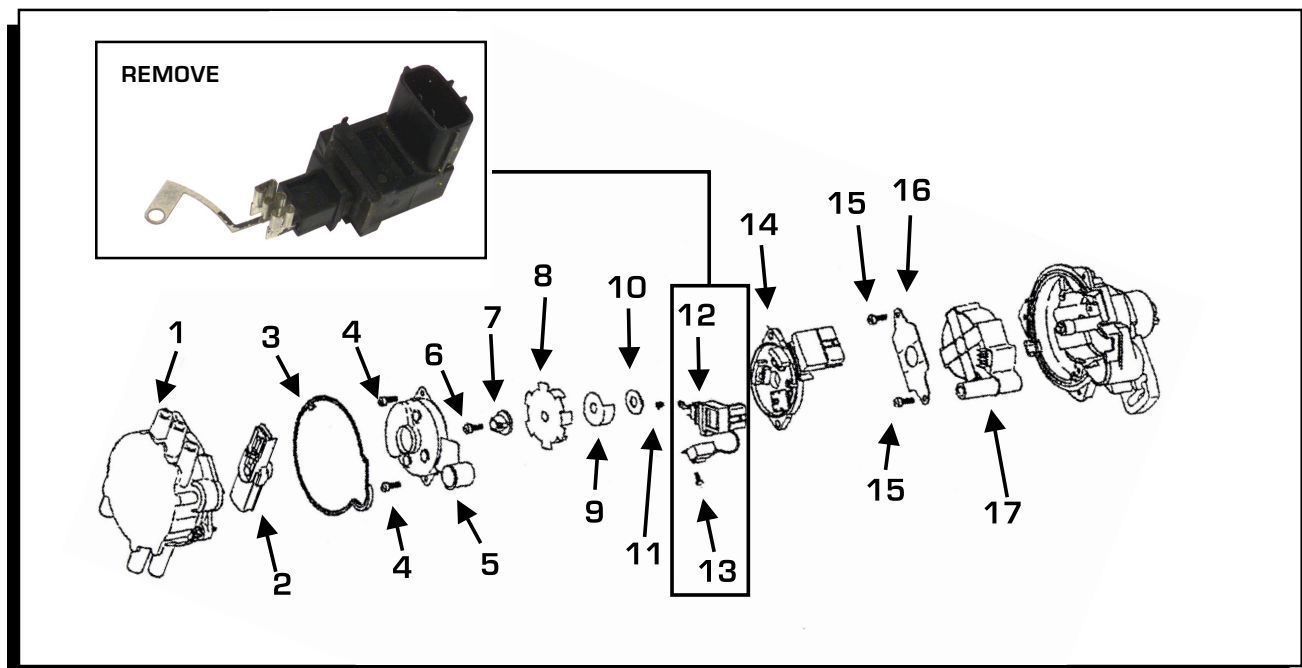

Figure 2 Disassemble the Distributor.
1. Remove distributor parts 1 through 13 as illustrated in Figure 2.
2. Distributor parts 12 and 13 will no longer be used (Figure 2).
6. Reassemble the distributor. Note Parts 12 and 13 will not be used (Figure 2).